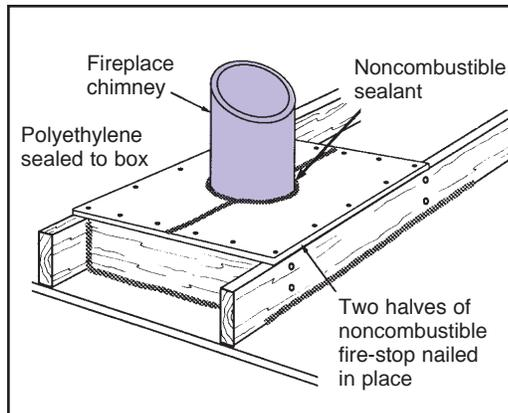

Fig. E-44: Sealing factory-built chimneys where they exit heated spaces
- Fireplace chimney connections: Seal with high-temperature sealant where chimney exits heated space (see Figure E-44).